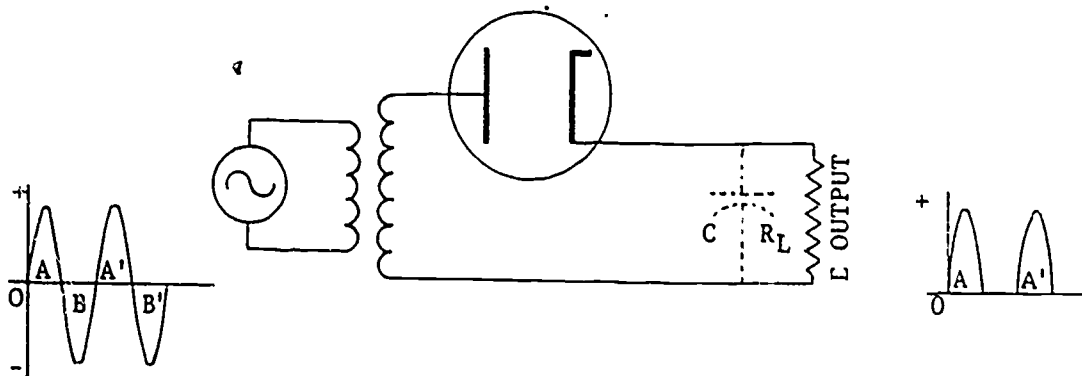
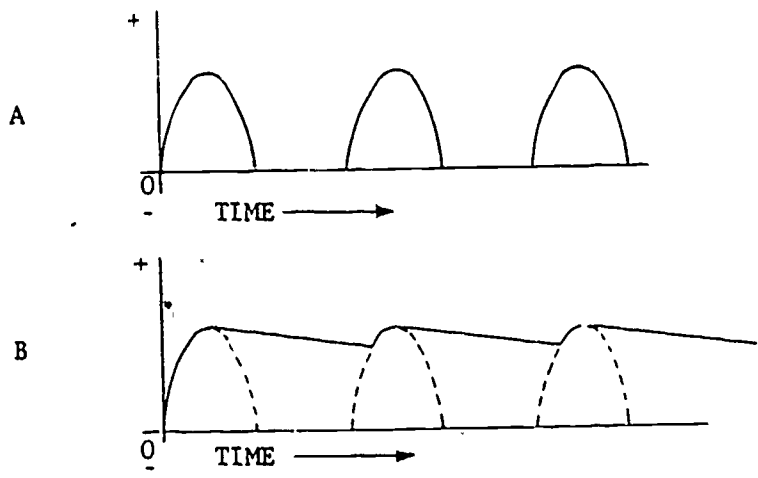

Figure 1-5. Diode used as a half-wave rectifier.
Figure 1-6. Effect of filter capacitor on waveform.
- (1) A typical diode tube half-wave rectifier circuit is shown in figure 1-5. This circuit converts the ac input voltage into a dc voltage. The unfiltered output of this circuit is shown in A of figure 1-6. The effects of adding filter capacitor C to the circuit is shown in B of figure 1-6. Additional filtering will further smooth the dc.